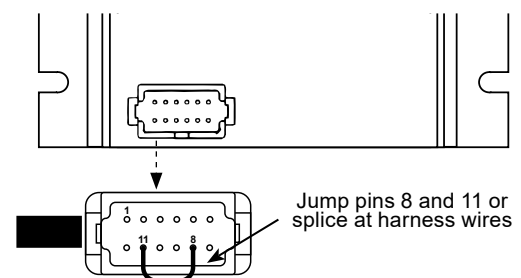

Figure 7: Reuse Existing FLD wire for IGN by Jumping Harness Sockets
- If replacing **Transtech** or similar regulator: remove regulator harness connector and jumper pins 8 and 11 (see Figure 7). Tape or cable tie jumper securely in place. Alternate method is to splice harness wires from pins 8 and 11 together.